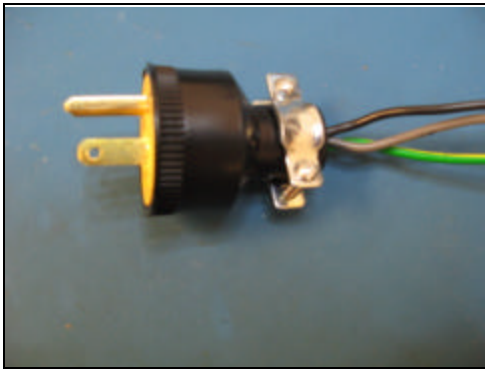

Figure 1. Signal Tower AC Power Connection
- Step 2:** LaserLinc supplied Signal Towers are 120 VAC devices. Prepare the Signal Tower's GRAY(Neutral),BLACK (Line) & GRN/YEL (Grd) wires for connection to facility power. DO NOT PLUG IN AT THIS TIME. Refer to Figure 1 & 6 below.